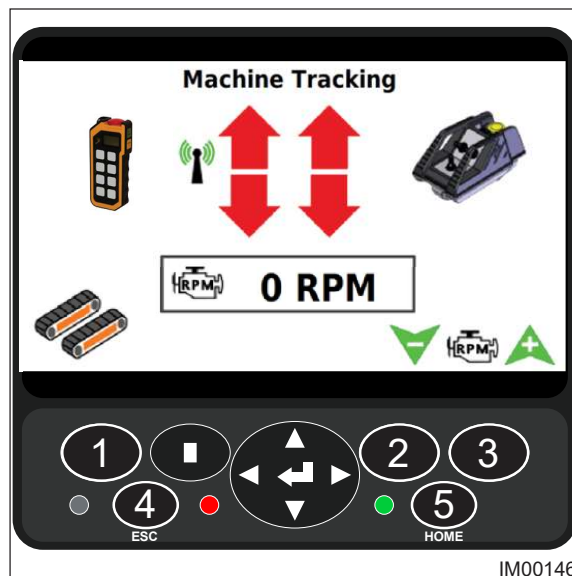

Fig. 6.6 - Track Screen
- ◇ The control panel identifies the handset is connected and the Track Screen displays (Fig: 6.6).
8. Press the Tracks Enable button (Item 1, Fig: 6.6).
9. The Engine RPM can be increased and decreased using buttons (Items 2 & 3, Fig: 6.6).
- Press the Tracks Disable button (Item 1, Fig: 6.6) on the Display Screen.